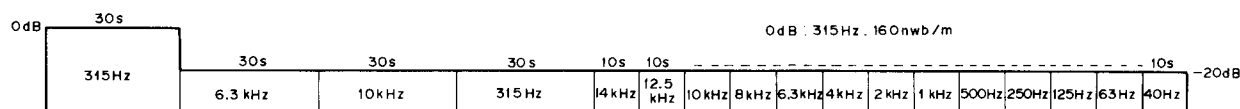

Fig. 7-2 Test tape STD-331B
| 1         | NORM                 | REC      | STD-608A and put into REC mode.   | Bias oscillator frequency T201 | Between (A) and (B) in Fig. 7-2 | Confirm that the oscillation frequency 105 kHz $\pm 1$ kHz.   | When it is not within the standard, put it into the standard by adjusting T201. |